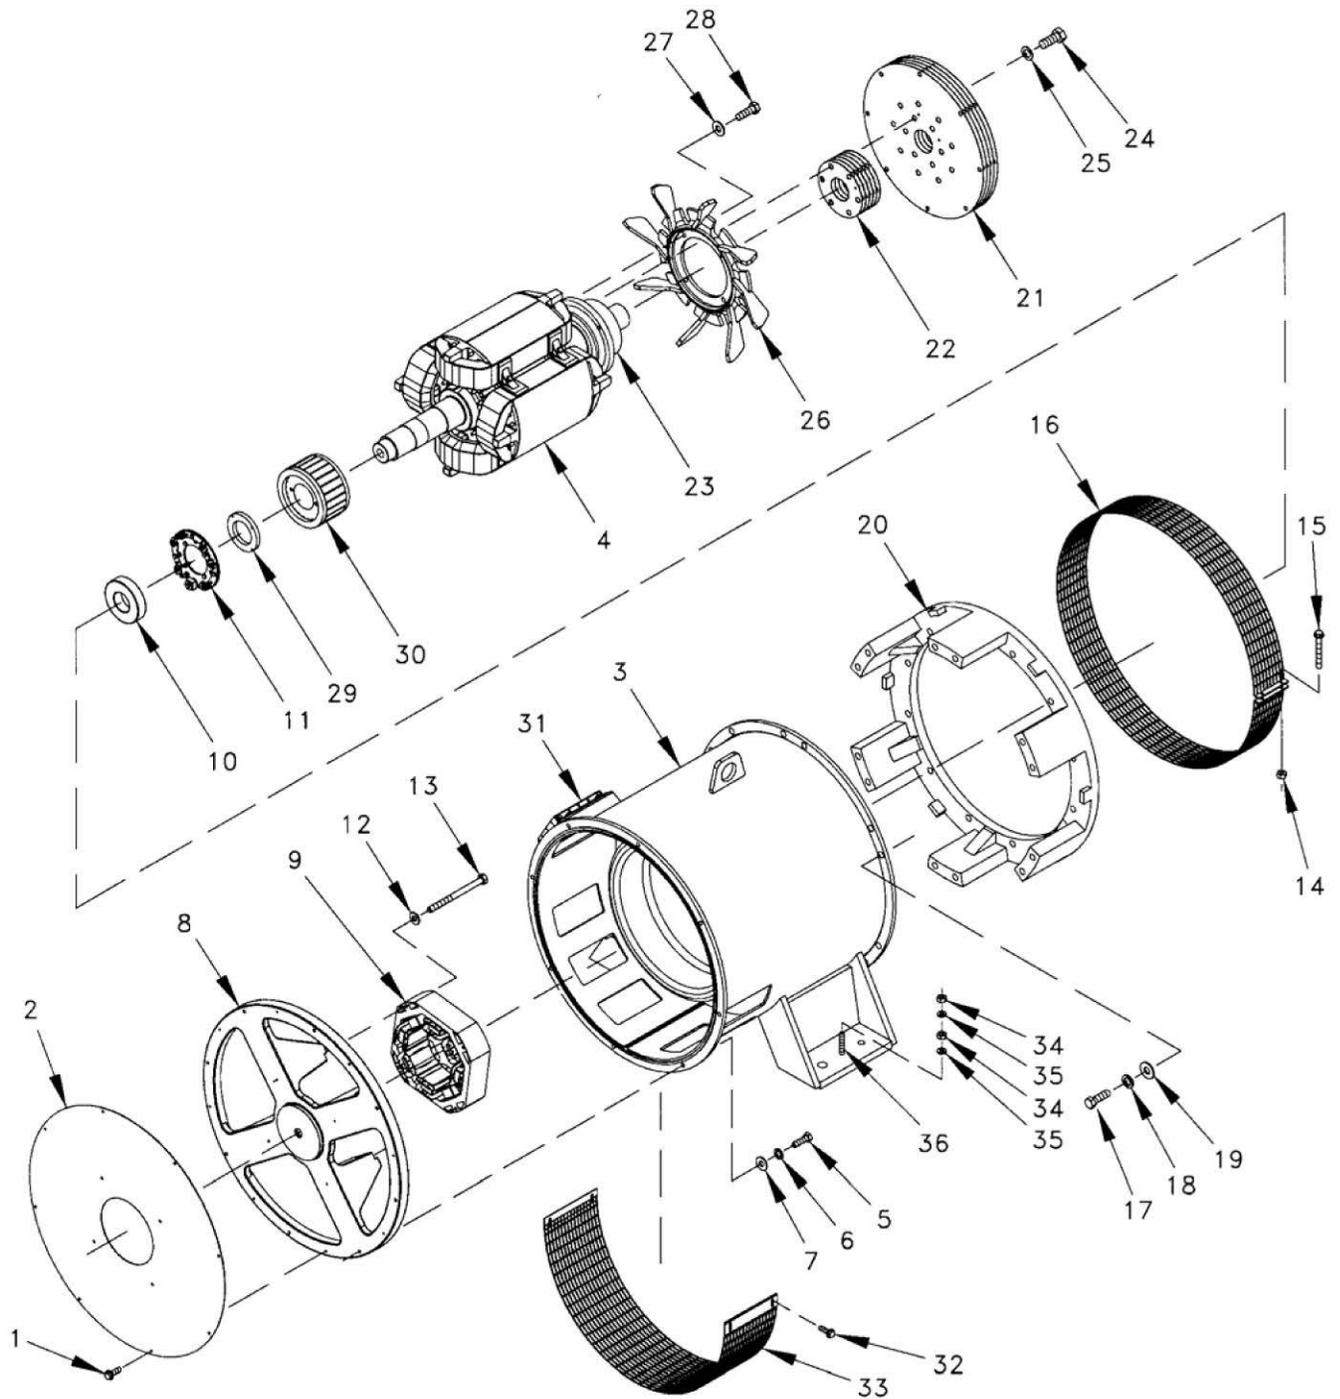

Figure 1. Generator Repair.
1. Remove twelve screws (Figure 1, Item 1) and cover (Figure 1, Item 2) from body assembly (Figure 1, Item 3).
2. Bar rotor (Figure 1, Item 4) so that two main rotor poles are vertical in body assembly (Figure 1, Item 3).
3. Remove eight screws (Figure 1, Item 5), lock washers (Figure 1, Item 6), nuts (Figure 1, Item 7), and bearing bracket (Figure 1, Item 8) with exciter stator (Figure 1, Item 9) attached.
4. Use bearing puller to remove bearing (Figure 1, Item 10) from shaft of rotor (Figure 1, Item 4) and discard bearing.
5. Remove rotating rectifier (Figure 1, Item 11) from rotor (Figure 1, Item 4).
6. Note orientation of Belleville washers (Figure 1, Item 12) and remove four screws (Figure 1, Item 13), Belleville washers (Figure 1, Item 12), and exciter stator (Figure 1, Item 9) from bearing bracket (Figure 1, Item 8).
7. Remove two nuts (Figure 1, Item 14), screws (Figure 1, Item 15), and exhaust screen (Figure 1, Item 16).
8. Remove 16 screws (Figure 1, Item 17), lock washers (Figure 1, Item 18), washers (Figure 1, Item 19), and flywheel housing adapter (Figure 1, Item 20).
9. Use suitable rotor lifting device to carefully remove rotor (Figure 1, Item 4) and attached parts from body assembly (Figure 1, Item 3).
10. Mark drive discs (Figure 1, Item 21), spacer discs (Figure 1, Item 22), and drive hub (Figure 1, Item 23) for proper alignment during assembly.
11. Remove six screws (Figure 1, Item 24), washers (Figure 1, Item 25), five drive discs (Figure 1, Item 21) and six spacer discs (Figure 1, Item 22) from drive hub (Figure 1, Item 23).
12. Mark fan (Figure 1, Item 26) and drive hub (Figure 1, Item 23) for proper alignment and balancing of fan during assembly.
13. Note orientation of Belleville washers (Figure 1, Item 27) as they are removed, and remove four screws (Figure 1, Item 28), Belleville washers (Figure 1, Item 27), and fan (Figure 1, Item 26) from drive hub (Figure 1, Item 23).
14. Install suitable puller to drive hub (Figure 1, Item 23) Use torch to rapidly heat only outside diameter of drive hub (Figure 1, Item 23) (to avoid expanding rotor shaft while tightening puller). Remove drive hub (Figure 1, Item 23) from rotor (Figure 1, Item 4).
15. Remove rectifier mounting hub (Figure 1, Item 29) and exciter rotor (Figure 1, Item 30) from rotor (Figure 1, Item 4).
16. If necessary, remove lead block assembly (Figure 1, Item 31).
17. Remove four screws (Figure 1, Item 32) and intake air screen (Figure 1, Item 33).
19. Remove two nuts (Figure 1, Item 34), two lock washers (Figure 1, Item 35), and grounding stud (Figure 1, Item 36).
1. Install grounding stud (Figure 1, Item 36), two lock washers (Figure 1, Item 35), and two nuts (Figure 1, Item 34).